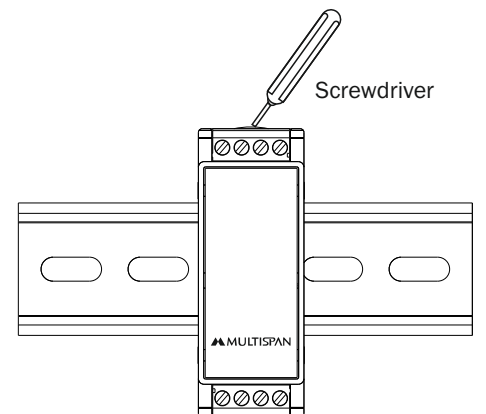

Fig. 2
- To remove the power supply unit, insert a screwdriver into the clamp at the top, as per Fig. 2.